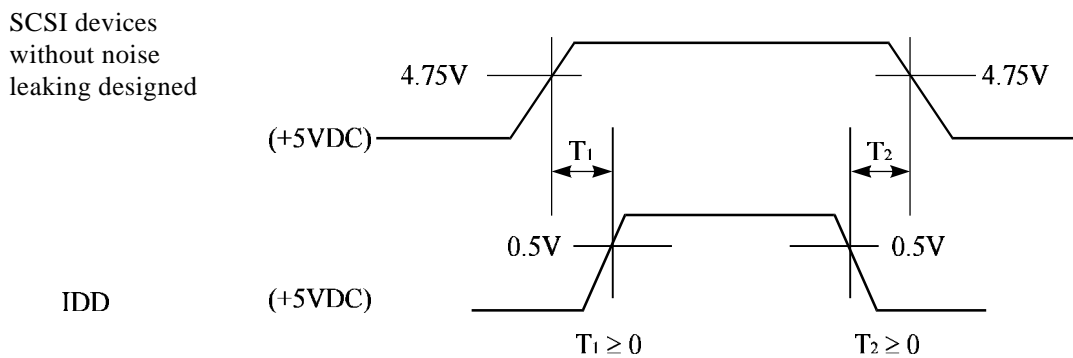

Figure 4.14 Power on/off sequence (3)
- In a system containing an SCSI device which is not designed to prevent noise from leaking to the SCSI bus, the requirement given in Figure 4.14 must be satisfied between that SCSI device and the IDD.